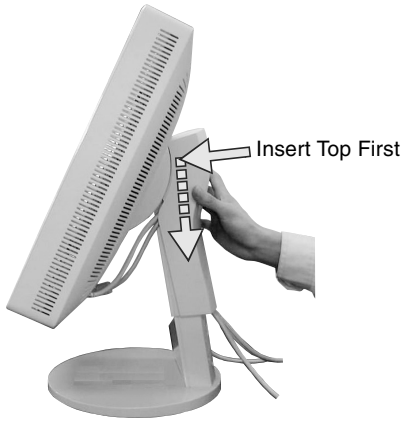
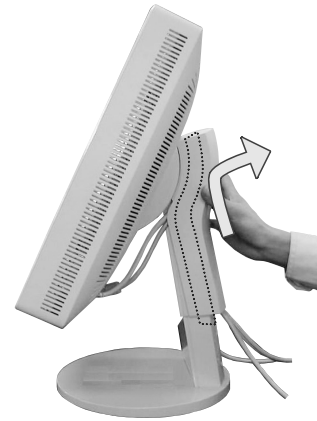

Figure D.1
Figure D.2
13. Hold the all cables firmly and place the cable cover onto the stand (**Figure D.1**). To remove the cable cover, lift the cover off as shown in **Figure D.2**.